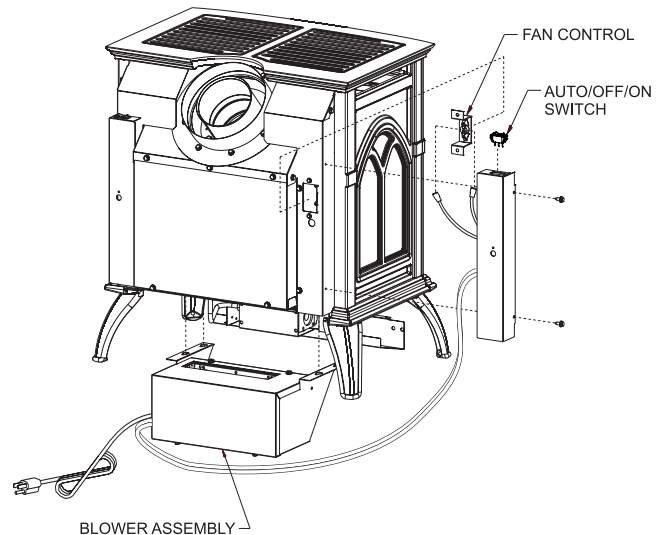

Figure 40
10. Bend the fan control tab, located on the left side of the back of the unit, inward toward the unit. See Figure 40. Be sure tab is bent at least 90 degrees to allow fan control bracket to slide into slot.